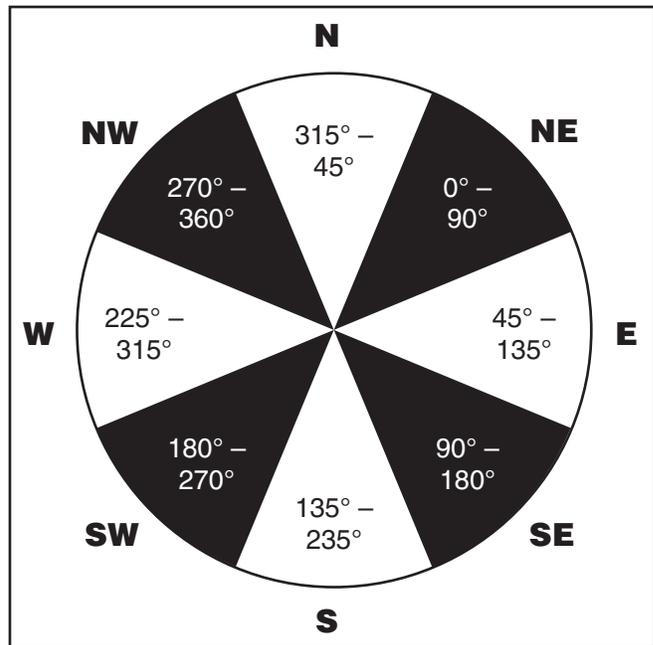

Figure 7: Pie chart of 8 geographical directions.
2. The hand controller will prompt you to "Select Region". Choose the direction which corresponds with where you see the brightest star in the night sky. It may be helpful to have a compass for reference during this process. There are 8 regions to choose from (Figure 7). The direction you